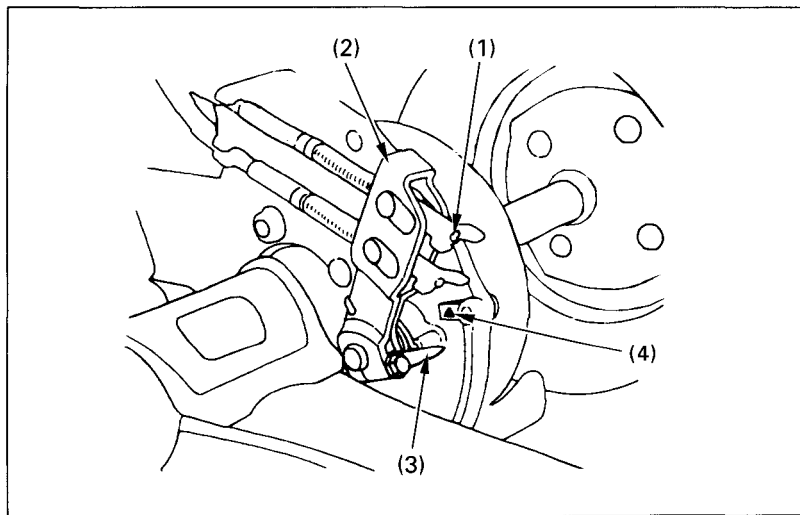

Fig. 4-29      (1) Brake lever adjusting nut      (3) Arrow
When the brake is applied, an arrow (3) attached to the brake arm (2) moves toward a reference mark (4) on the brake panel (see Fig. 4-29).